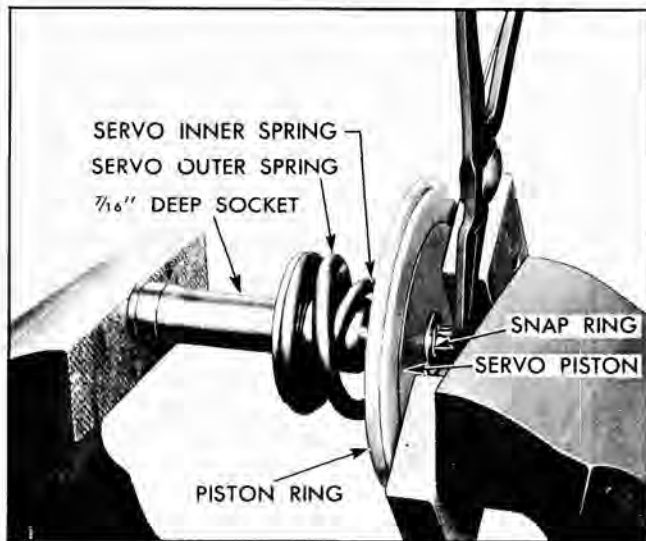

Fig. 105 Method of Removing Snap Ring from Servo Piston Pin
1. Place a $\frac{3}{16}$ " deep socket over the long end of the servo piston pin (Fig. 105).
2. Position a "U" shaped spacer against the piston end of the piston assembly and place the socket, piston assembly and "U" shaped spacer between the jaws of a bench vise (Fig 105).